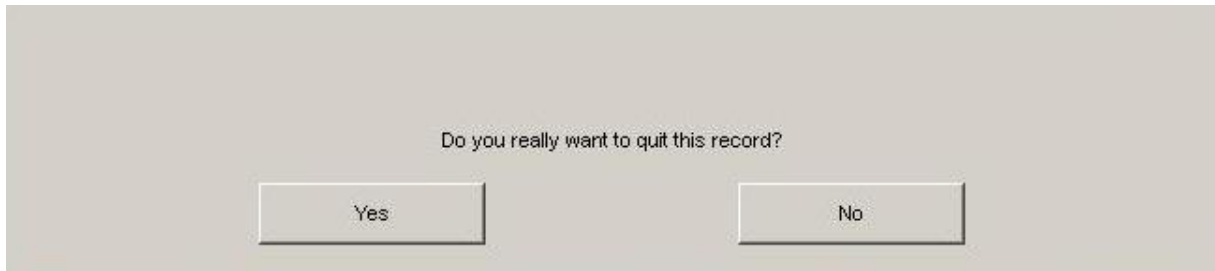
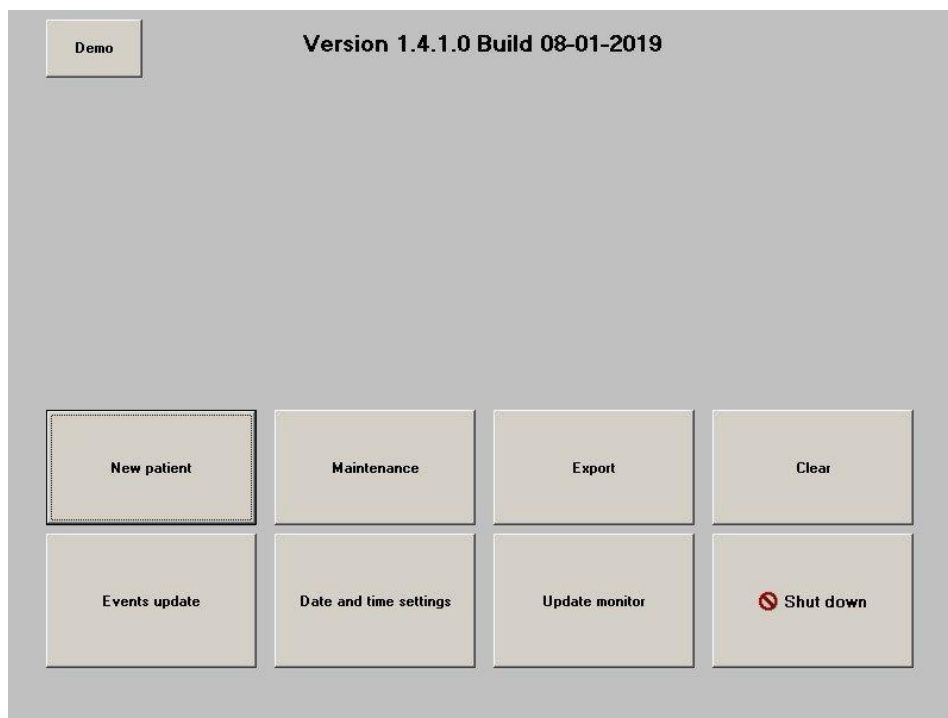
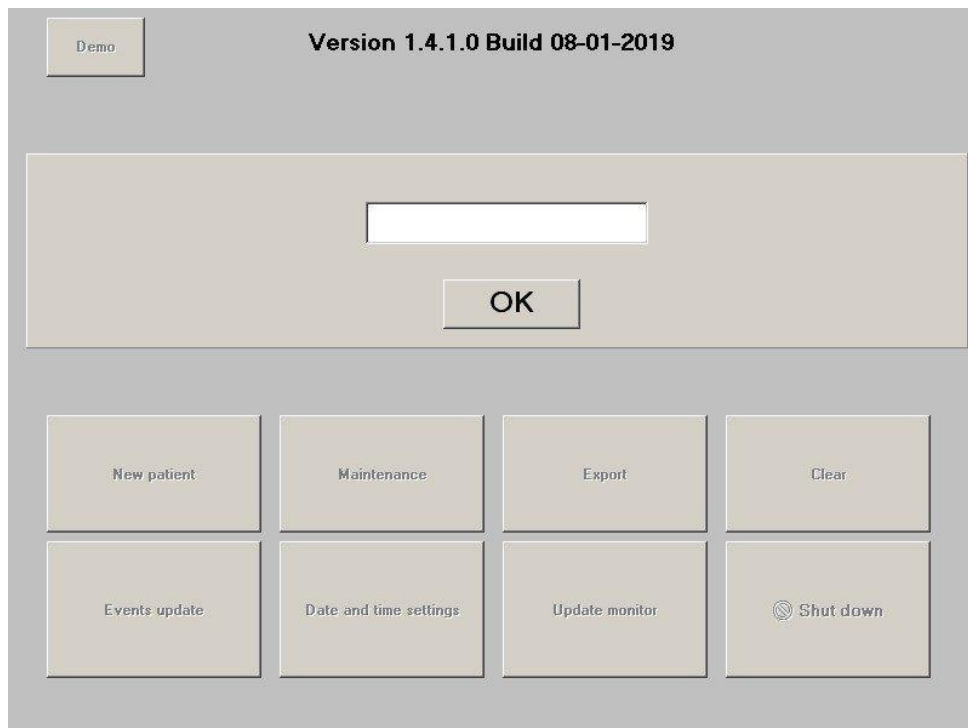
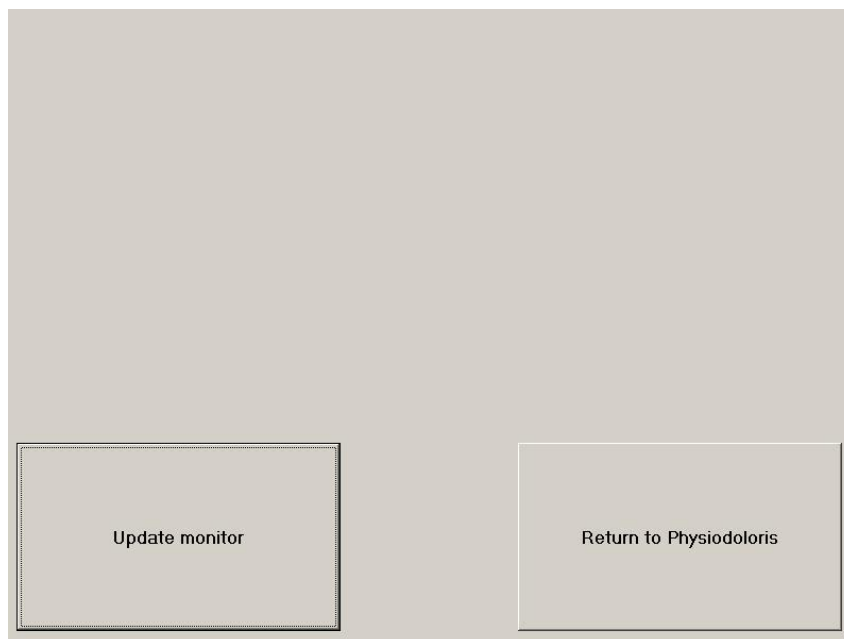

Figure 23
Figure 24
Figure 25
Figure 33
Pushing the button **[Stop]** in the top of the screen will end the monitoring and give access to the main menu. A confirmation window will appear before definitively stopping the monitoring (figure 23).
If you choose “**Yes**”, the main menu window will be displayed (figure 24):
Selecting **[Demo]** (figure 24) shows you a video of ANI functioning.
Selecting **[New patient]** (figure 24) initializes the monitoring and launches a new patient data including new file storage.
Selecting **[Maintenance]** (figure 24) opens a window with an input field (see figure 25 next page). This access is protected by a code that will be forwarded on request to Mdoloris Medical Systems.
When all data are deleted, another window will appear to confirm that the action is successfully done (figure 27). Press the button **[OK]** to return to the main menu (figure 24).
To get these pictures, a USB stick has to be plugged in the USB port called “Data Export”. Then the user selects **[Stop]** in the top of the screen. In the new window opened (figure 24), choose **[Export]**. The pictures will be saved in a file. Each file name will follow this rule: Hour – Minute – Month – Day - Year.
A press on the button **[Export]** (figure 24) sends all data saved in the monitor memory into a USB stick. To export the data you need to connect a USB stick in USB port called “Data Export”. If the monitor doesn’t detect any USB stick (USB stick isn’t plugged or bad connection), a message will appear to inform the user (figure 29). When the USB stick is well connected, press on **[OK]** and **[Export]** again to start the data export.
As explained previously (see chapter 7.3), events corresponding to several clinical moments are predefined in the system. The use can display those different events on the ANI trend panel. A press on the button **[Stop]** in the top of the screen will end the monitoring and will access to the main menu (figure 24). A confirmation window will appear (see figure 23, chapter 8.1).
***To note:** by clicking on **[Yes]**, no return to current patient will be possible. You will have access to the main menu (figure 24).*
To set the clock or the date, you have to select [**Stop**] to reach the main menu (figure 24):
In the main menu (figure 24), select **[Update monitor]**. Plug an USB stick with the new version of “PhysioM_INT.exe” provided by your Mdoloris Medical Systems representative. Then select **[Update monitor]** (see figure 33 next page).
Pressing the button [ **Shut down**] (figure 24) ends the session and will shut down the PhysioDoloris Monitor V1.